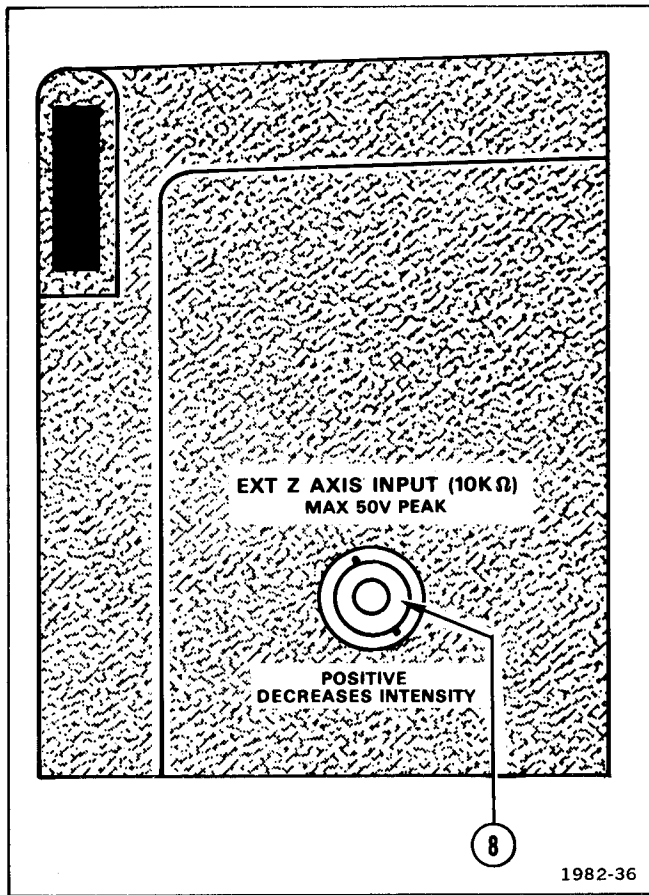
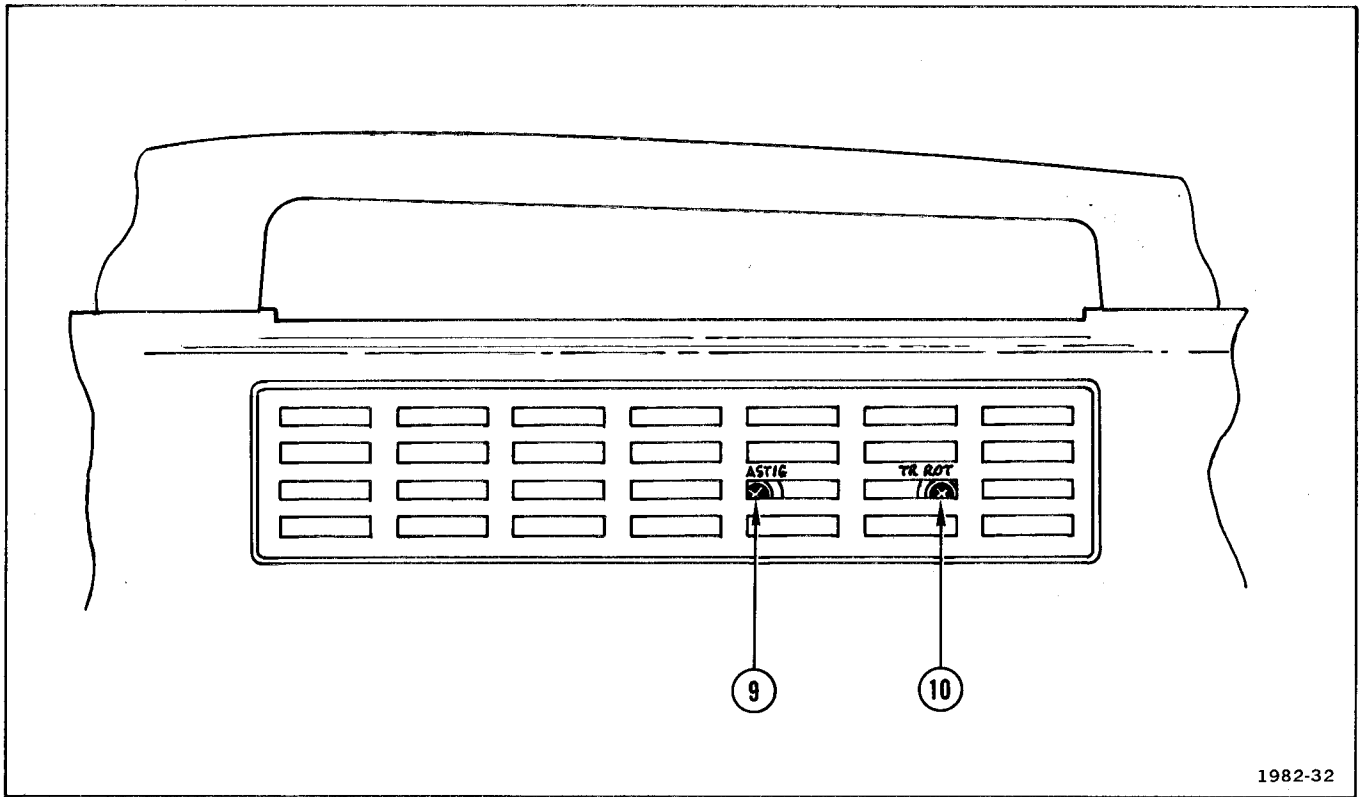

Fig. 2-2. Rear panel controls and connectors.
Fig. 2-3. Left side of cabinet.
- ⑥ **POWER**—Indicator lamp lights when ON-OFF button is depressed to ON (in) position and applied power input voltage does not vary more than about 10% from the value indicated by the 120 V/240 V and HI/LO voltage selector switch settings. When applied power input voltage varies more than about 10% (either high or low) from the selected value, the lamp will blink. (In some versions this lamp is labeled ON.)
- ⑦ **Internal graticule**—Eliminates parallax. Risetime amplitude and measurement points are indicated at the left edge of the graticule.
**Rear Panel (Fig. 2-2)**
- ⑧ **EXT Z AXIS INPUT**—BNC connector for applying signals to intensity modulate the crt display. Signals must be time-related to the display for a stable display.
**Left Side of Cabinet—T921/T922 only (See Fig. 2-3)**
- ⑨ **ASTIG**—Screwdriver adjustment used with FOCUS control to obtain a well-defined display. Requires little or no adjustment once set.
- ⑩ **TR ROT**—Trace rotation screwdriver adjustment. Aligns trace with the horizontal graticule lines.